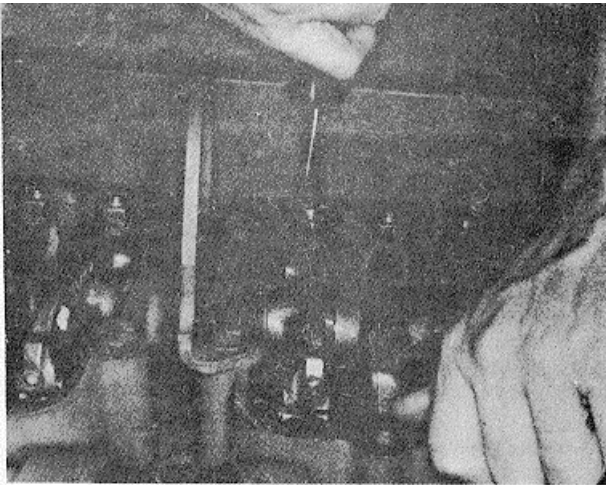

Fig. 14-31, (N114215). Adjusting valves
2. Loosen locknut and back off adjusting screw. Insert feeler gauge between rocker lever and crosshead. Valve clearances are shown in Table 14-13. Turn screw down until lever just touches gauge and lock in this position. Fig.14-31. Tighten locknut to 30 to 40 ft-lb. [4.1 to 5.5 kg m] torque. When using ST-669 torque to 25 to 35 it-lb. [3.5 to 4.8 kg mi.